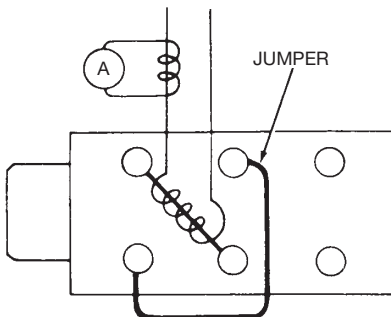

Figure 24.
- Connect the phases in series as shown in Figure 24 and retest.